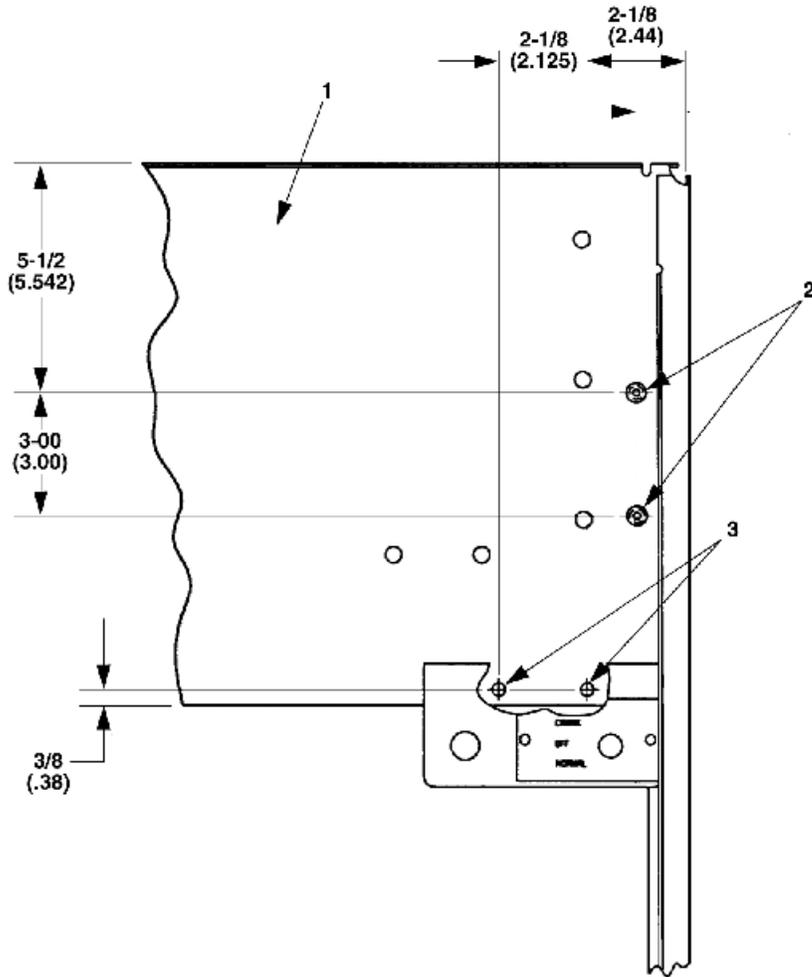
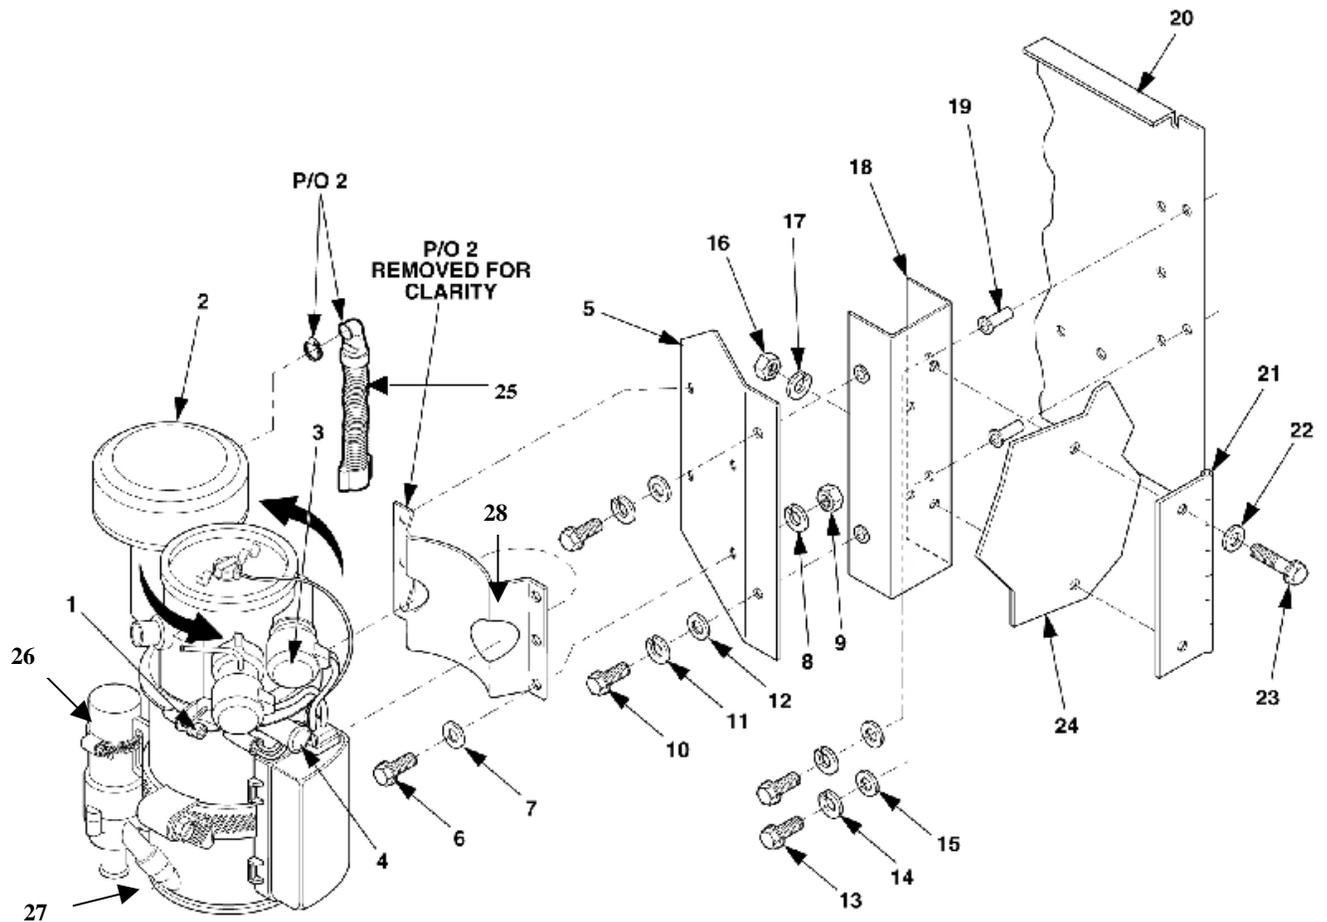

Figure 5-3. Bulkhead Housing.
Figure 5-4. Heater Assembly.
11. Remove dead crank switch bracket (4), Figure 5-3, from center bulkhead housing. Retain hardware for reinstallation in accordance with TM 9-6115-642-24. Retain hardware for reinstallation.
12. Drill four 9/32 inch diameter holes (2 and 3) in center bulkhead housing (1).
13. Install dead crank switch bracket (4, removed in procedure 11) in holes (3) with screws, flat washers, and lock washers.
14. Loosen the heater head retaining screw (1), Figure 5-4, part of (2), and rotate the glow plug assembly (3), until the right glow plug is above the coolant outlet (4), and tighten.
15. Loosen the heater holding clamp bracket (28), part of (2), and rotate the “black” heater shell bracket approximately 1 ½ inch space from the heater water pump. Do not retighten the clamp.
16. Install the heater (2), on the heater mounting plate, (5), using screws (6), flat washers (7), lock washers (8), and nuts (9).
17. Attach the heater air inlet flexible hose (25) to the heater water pump (26) using existing cable tie provided with heater, (2). Ensure the inlet hose (27) does not interfere with the heater mounting bracket.
18. Remove the hinges (21) and associated hardware from the generator set.
19. Install blind rivet nuts (19) in holes on bulkhead housing (20). See holes (2) in Figure 5-3.
21. Install the wall mounting plate bracket (18), Figure 5-4, on the inside of the center bulkhead housing using screws (13), flat washers (14), and lock washers (15) into rivet nuts (19).
23. Install the top hinge (21), on the outside of the center bulkhead housing (24), using screws (23), flat washers (22), lock washers (17), and nuts (16), removed in procedure 18.
24. Install the heater/mounting plate assembly (5) to the wall mounting bracket (18), using screws (10), flat washers (11), and lock washers (12).